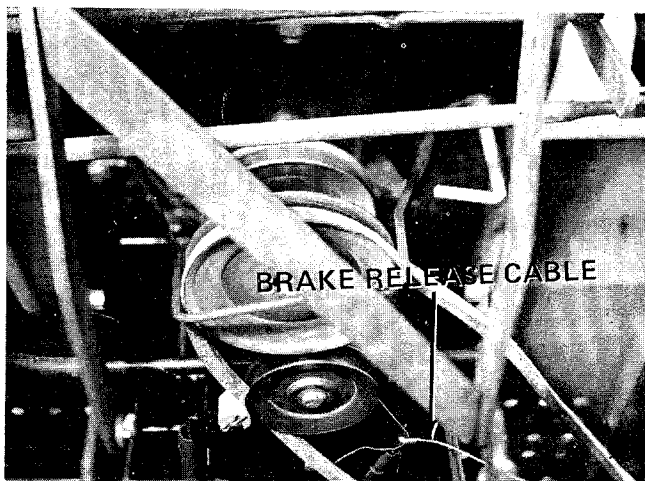

FIGURE 8.
9. Place the deck belt around the engine pulley and idler. (See figure 8.)